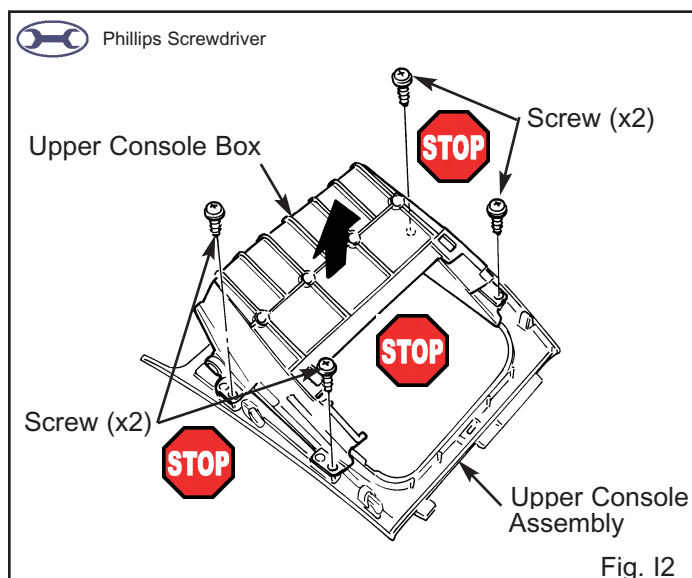

Fig. I2
2. Remove the upper console box from the upper console assembly. (Fig. I2)